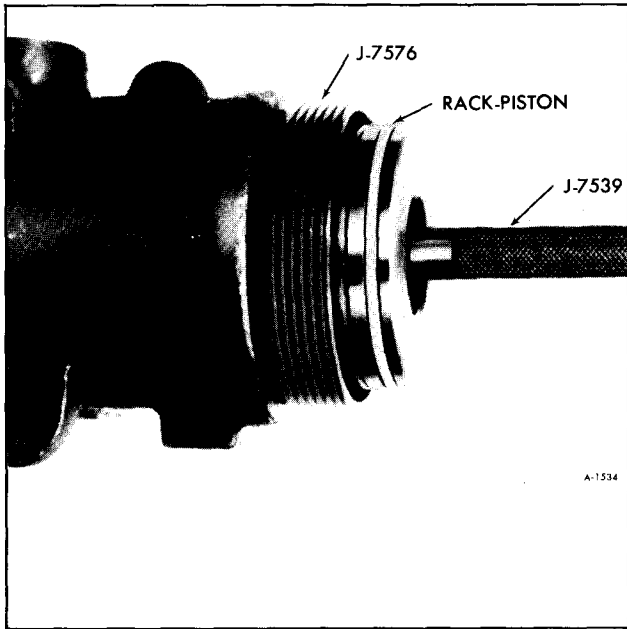

Figure 54—Installing Rack-Piston
- c. With Ball Retainer J-7539 in place in the rack-piston, push the rack-piston (with teeth toward pitman shaft opening), into the housing until Tool J-7539 contacts the center of worm (figure 54).